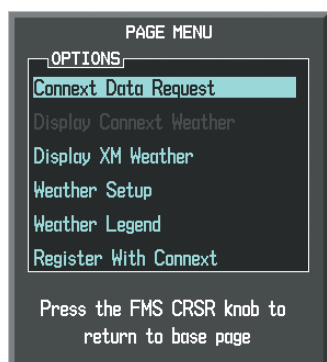

Figure 6-66 Weather Data Link (CNXT) Page Menu
- 3) With 'Connext Data Request' highlighted, press the **ENT** Key (Figure 6-66).